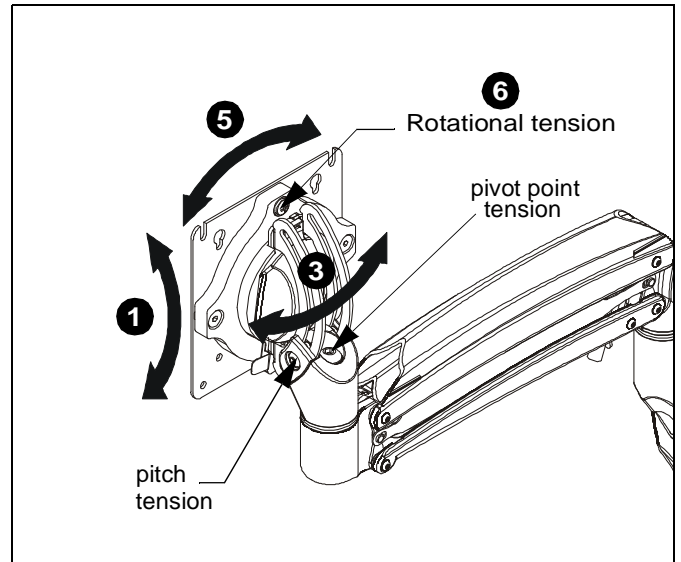

Figure 7
1. Adjust pitch to desired tilt position. (See Figure 7)
2. Adjust pitch tension screw to change the adjustment tension. (See Figure 7)
3. Adjust pivot position as desired. (See Figure 7)
4. Use 3/16" hex key (L) to adjust pivot point tension screws to change pivot adjustment tension. (See Figure 7)
5. The monitor may be adjusted 90 degrees in either direction in order to provide a portrait view of the monitor. (See Figure 7)
6. Use 3/16" hex key (L) to adjust rotational adjustment screw to adjust rotational tension. (See Figure 7)